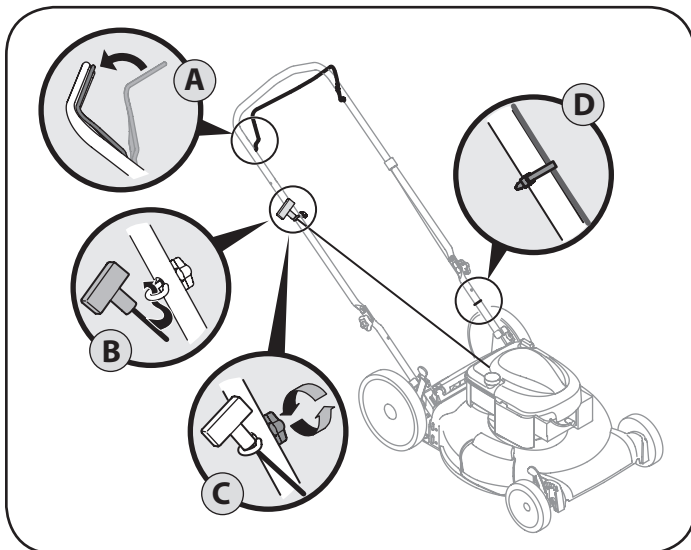

Figure 6
4. The rope guide is attached to the right side of the upper handle. Loosen the wing knob which secures the rope guide. See Figure 6.
- b. Slowly pull starter rope handle from engine and slip starter rope into the rope guide. See Figure 6.